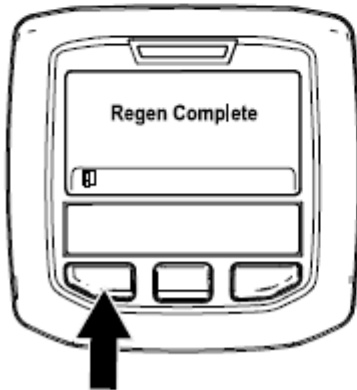

Figure 13
9. The parked regeneration is complete when the “Regen Complete” message displays in the InfoCenter. Press the left button to exit to the home screen (Figure 13).